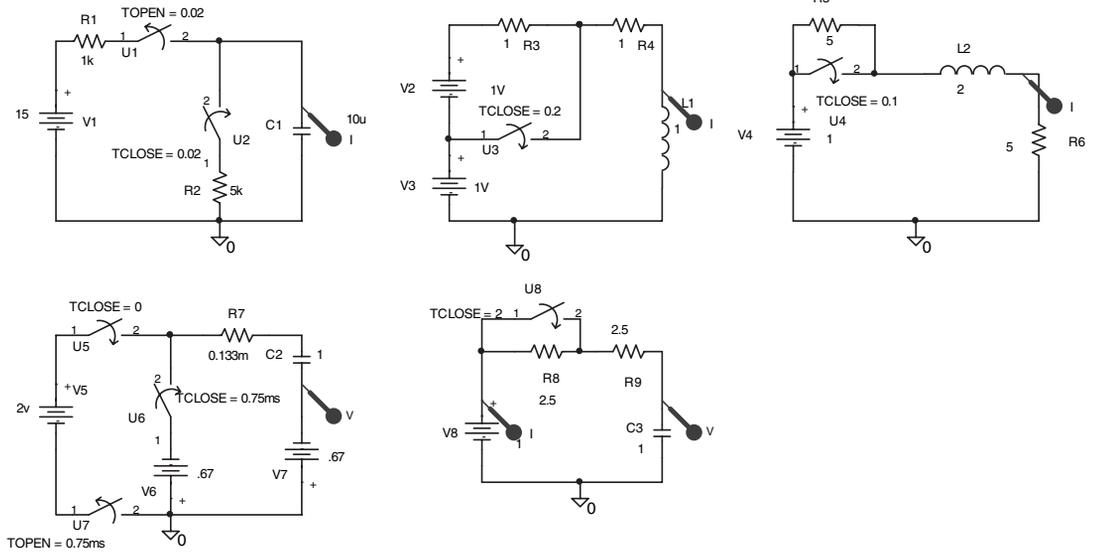

FIGURE 3.11: Switching circuits
- (1) Investigate the transient exercises shown in Fig. 3.11.